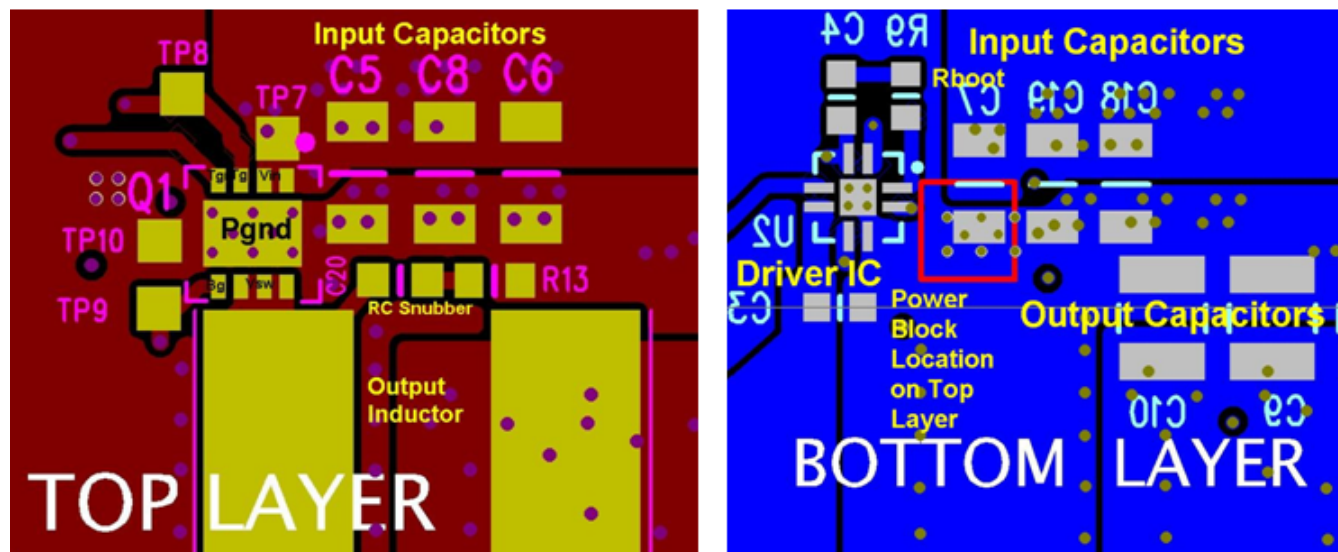

Figure 21. Recommended PCB Layout (Top Down)
- The placement of the input capacitors relative to the Power Block's V_{IN} and P_{GND} pins should have the highest priority during the component placement routine. It is critical to minimize these node lengths. As such, ceramic input capacitors need to be placed as close as possible to the V_{IN} and P_{GND} pins (see Figure 21). The example in Figure 21 uses six 10= μ F ceramic capacitors (TDK part number C3216X5R1C106KT or equivalent). Notice there are ceramic capacitors on both sides of the board with an appropriate amount of vias interconnecting both layers. In terms of priority of placement next to the Power Block, C5, C7, C19, and C8 should follow in order.
- The switching node of the output inductor should be placed relatively close to the Power Block V_{SW} pins. Minimizing the node length between these two components will reduce the PCB conduction losses and actually reduce the switching noise level.⁽¹⁾ In the event the switch node waveform exhibits ringing that reaches undesirable levels, the use of a Boost Resistor or RC snubber can be an effective way to easily reduce the peak ring level. The recommended Boost Resistor value will range between 1.0 to 4.7 Ω depending on the output characteristics of Driver IC used in conjunction with the Power Block. The RC snubber values can range from 0.5 to 2.2 Ω for the R, and from 330 to 2200 pF for the C. Please refer to *Snubber Circuits: Theory, Design and Application* (SLUP100) for more details on how to properly tune the RC snubber values. The RC snubber should be placed as close as possible to the V_{SW} node and P_{GND} (see Figure 21).⁽¹⁾
(1) Keong W. Kam, David Pommerenke, "EMI Analysis Methods for Synchronous Buck Converter EMI Root Cause Analysis", University of Missouri – Rolla
- Use the smallest drill size allowed in your design. The example in Figure 21 uses vias with a 10-mil drill hole and a 16-mil capture pad.